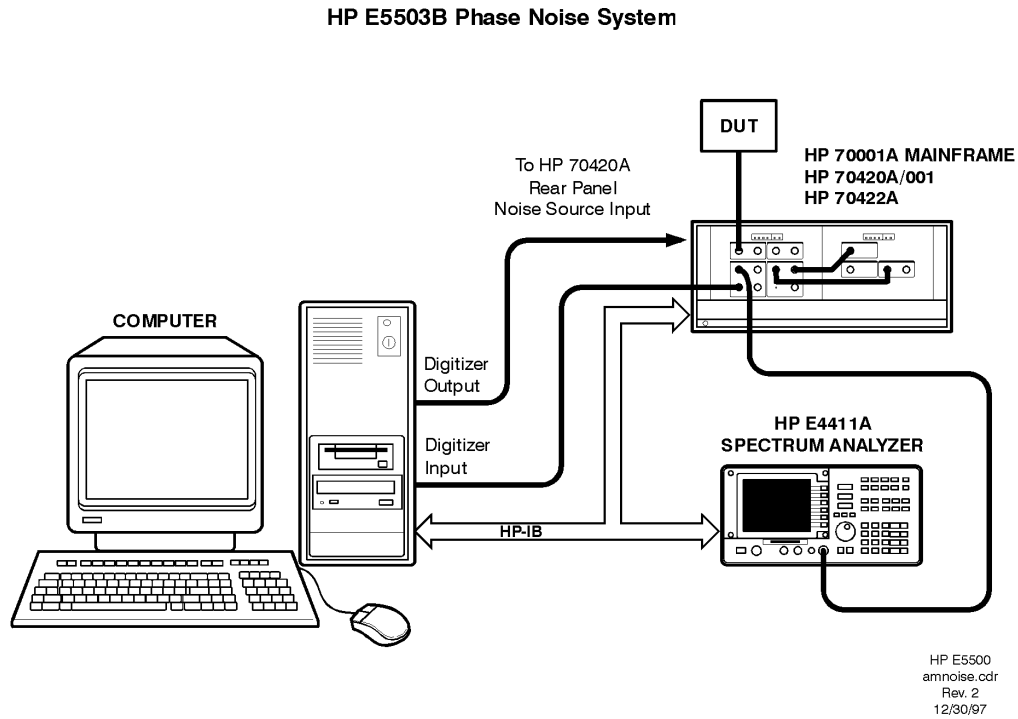

Figure 13-10 Connect Diagram Example
- 4 Refer to Figure 13-10 for more information about system interconnections.